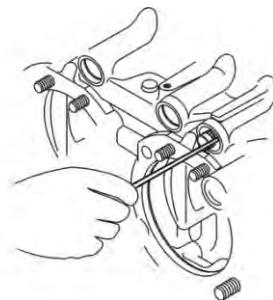

Figure 10
- (3) Push the hollow end of the tool over the hydraulic tappet plunger and withdraw the plunger.
- (4) Bend a right angle in one end of a piece of wire and insert this end into the space between the plunger assembly and the tappet body. Turn the wire 90° to engage a coil of the spring and draw out the hydraulic tappet plunger assembly. Refer to Figure 10.